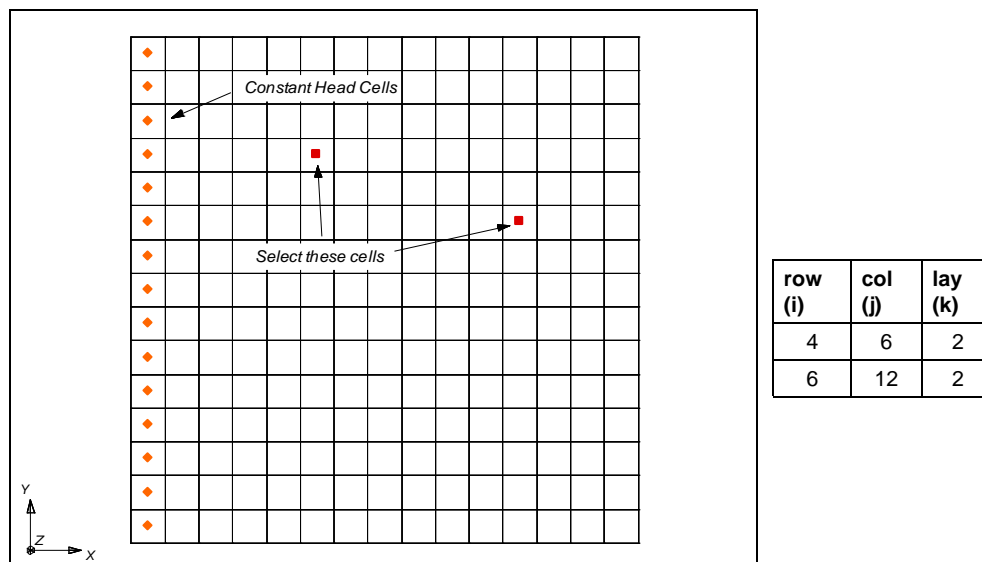

Figure 6. Cells to be selected on middle layer.
2. While holding down the *Ctrl* key, select the cells are shown in **Figure 6**.